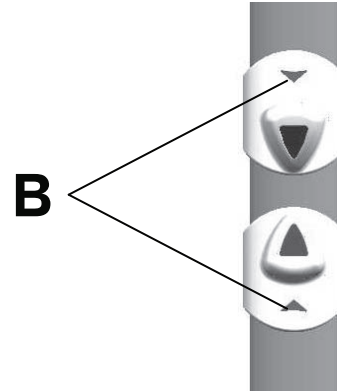

Figure 7 – Open/close indicators
Note - The open/close indicators (B) will show yellow when the door is released from the lock (Figure 7).
Note - The open/close indicators (B) will show green when the door is locked in the closed position (Figure 7).